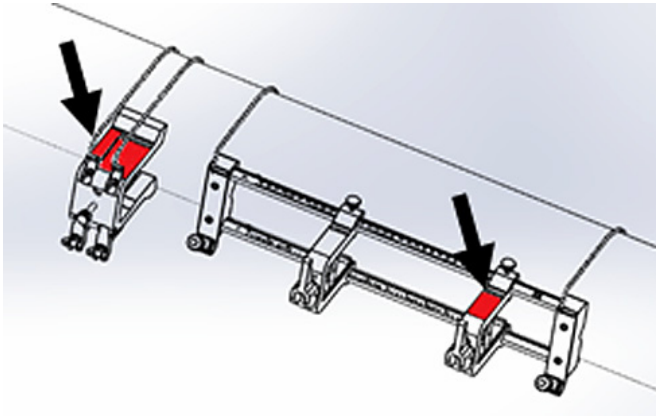

Figure 38: Yoke rotated into horizontal position
- Rotate the yoke until it is located in a horizontal position on the same side of the pipe as the previously installed clamping fixture, as shown in *Figure 38* below.
- Ensure that the top surfaces of the yoke bracket and the fixed clamping fixture bracket lie precisely in the same horizontal plane (see *Figure 38* above).